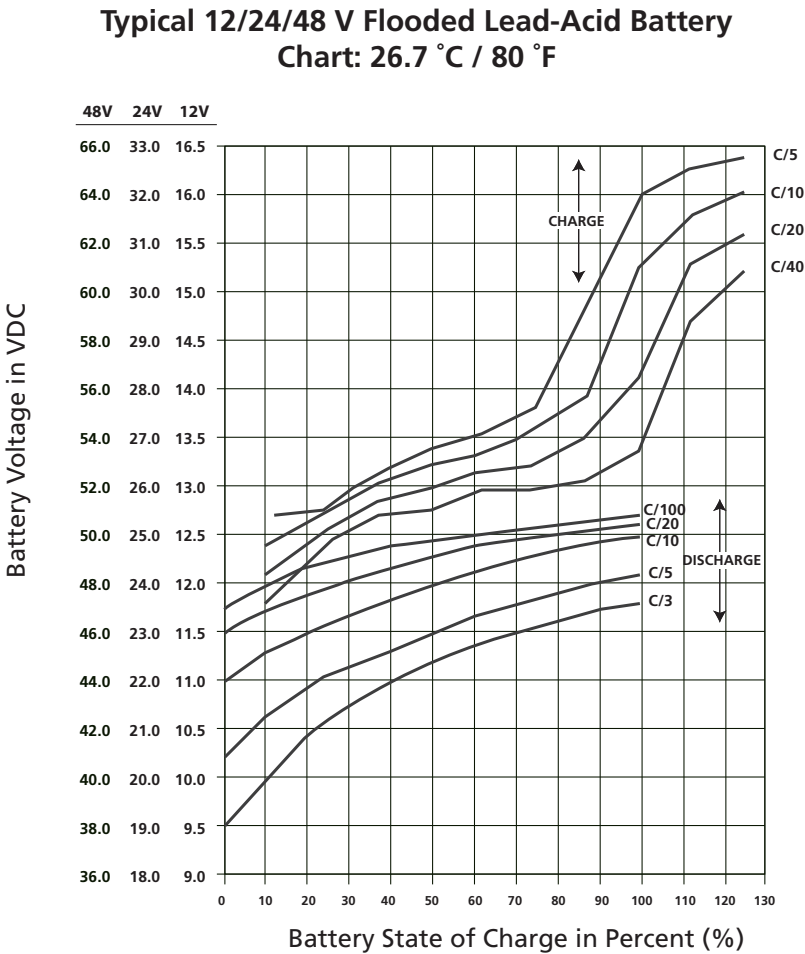

Fig 7.1 Charging/Discharging Curves for Typical 12 V/24 V/48 V Flooded Lead-Acid Battery
7.7.1 Fig 7.1 shows examples of State of Charge/Discharge Curves for different C-rates for typical 12 V / 24 V / 48 V lead-acid battery at 80 °F / 26.7 °C. These curves are used to determine the State of Charge/Discharge of the battery based on its terminal voltage.
7.7.2 Example of Determining State of Charge (using Fig 7.1) when Charging 12 V, 100 Ah Battery at C-rate of 0.1C or C/10 or 10A: Refer to Charge Curve marked C\10 of the upper 4 curves marked “CHARGE”. States of Charge at different battery terminal voltages will be: (a) At 15.3 V = 100% charged; (b) At 14.3 V = 90% charged; (c) At 13.5 V = 70% charged; (d) At 12.5 V = 15% charged
7.7.3 Example of Determining State of Discharge (using Fig 7.1) when Discharging 12 V, 100 Ah Battery at C-rate of 0.33C or C/3 or 33.3A: Refer to Charge Curve marked C3 of the lower 4 curves marked “DISCHARGE”. States of Discharge at different battery terminal voltages will be: [a] At 9.5 V = 100% discharged (0% charged); [b] At 10.4 V
The discharge curves in Fig. 7.1 show the % State of Charge versus the terminal voltage of typical Flooded lead-acid battery under different charge /discharge currents, i.e. “C-rates” and fixed temperature of 26.7 °C / 80 °F. (Please note that the X-Axis of the curves shows the % of State of Charge. The % of State of Discharge will be 100% - % State of Charge).
As stated earlier at Section 7.10, the buzzer alarm is triggered when the voltage at the DC input terminals of the inverter has dropped to around 10.5 V for a 12 V battery, 21 V for a 24 V, or 42 V for a 48 V battery. battery at C-rate discharge current of C/5 Amps. Please note that the terminal voltage relative to a particular of State Discharge decreases with the rise in the value of the discharge current. For example, terminal voltages for a State of Discharge of 80% (State of Charge of 20%) for various discharge currents will be as given at Table 7.5 (Refer to Fig 7.1 for parameters and values shown in Table 7.5):
Inverters are normally provided with a protection to shut down the output of the inverter if the DC voltage at the input terminals of the inverter drops below a threshold of around (i) 10 V for a 12 V battery, (ii) 20 V for 24 V battery, or (iii) 42 V for 48 V battery. Referring to the Discharge Curves given in Fig 7.1, the State of Discharge for various C-rate discharge currents for battery voltage of 10 V / 20 V / 40 V is as follows: (Please note that the X-Axis of the curves shows the % of State of Charge. The % of State of Discharge will be 100% - % State of Charge):